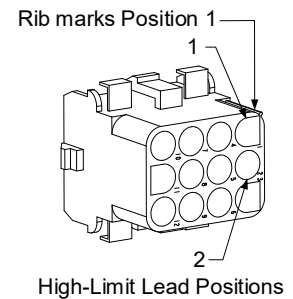

Figure 3
7. Insert the leads into the 12-pin connector C-6 (see Figure 3). The leads go into positions 1 and 2 of the connector, polarity does not matter.